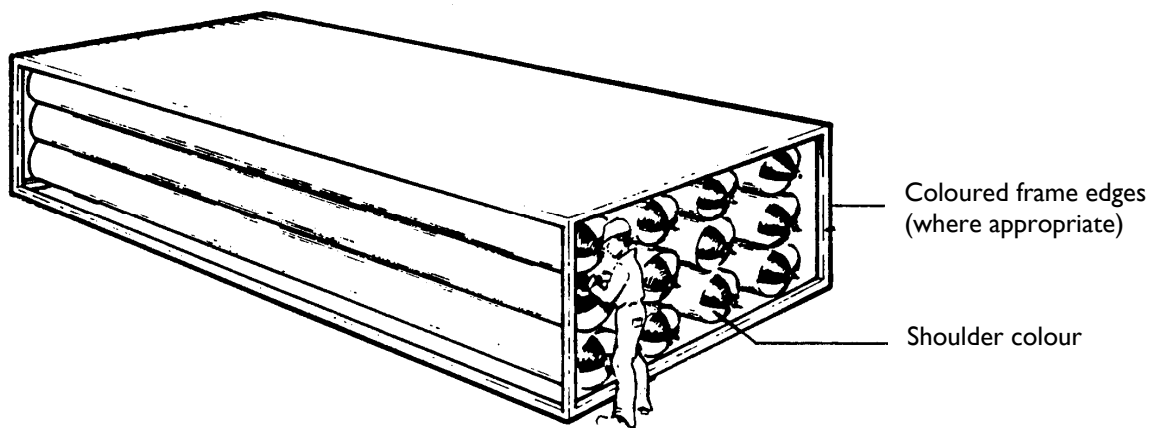

Figure 2 – Large bank where shoulder is visible to operator at valve position but body may not be visible
5.3.1 Where the cylinder shoulder is visible but the body is not (see Appendix 3 Figure 2):